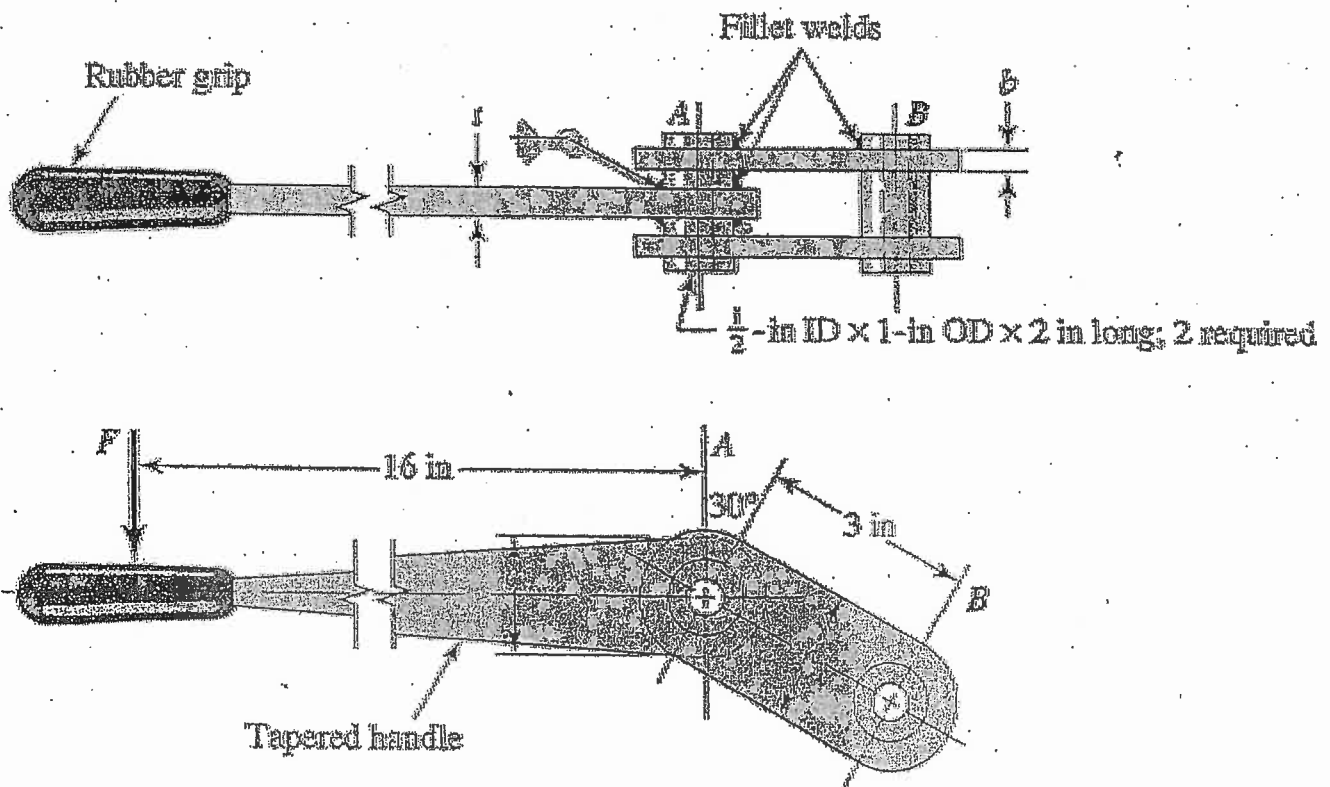

Fig. S7
- Without bracing, a machinist can exert only about 100 lbf on a wrench or tool handle. The lever shown in the Figure S7 has $t = 0.5$ in and $w = 2$ in. We wish to specify the fillet-weld size to secure the lever to the tubular part at A. Both parts are of steel, and the shear stress in the weld throat should not exceed 3000 psi. Find a safe weld size.